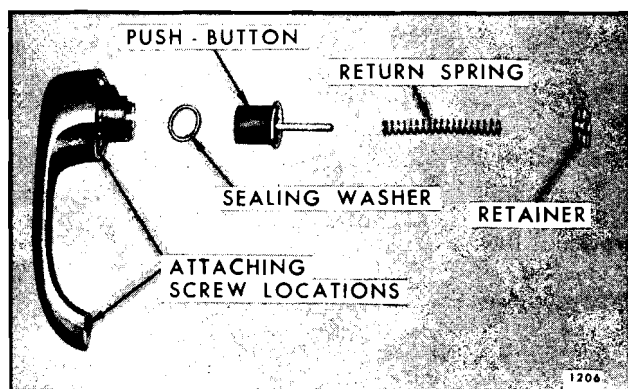
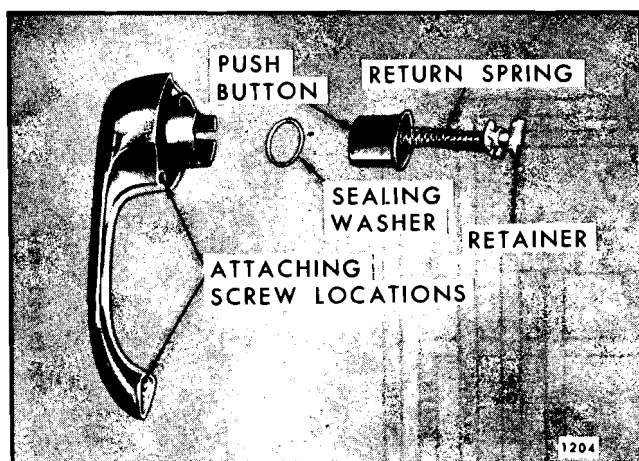

Fig. 6-22—Front Door Outside Handle - All Styles Except "G" Styles
Fig. 6-23—Rear Door Outside Handle - All Styles
2. Depress retainer slightly and rotate 1/4 turn in either direction. Remove retainer, spring, push button and shaft and sealing washer from handle (See Fig. 6-22 for front door handles and Fig. 6-23 for rear door handles).